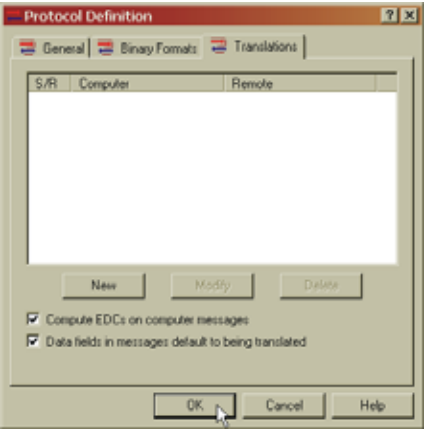

FIG. 195: PROTOCOLS DEFINITION
- Step 18. Click on the Translations Tab. The Translations page appears. (See Fig. 195) There should be nothing in the text area. The two check boxes should be checked.